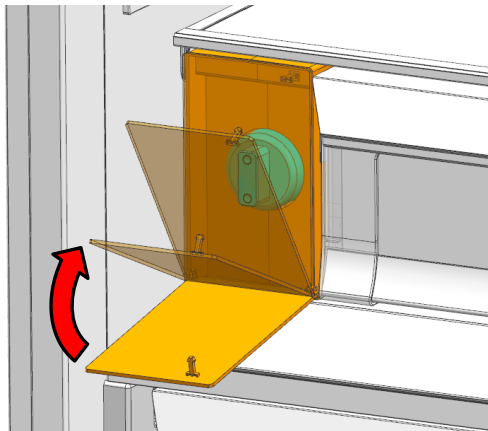

Figure 4
4. Re-secure the filter cover by pushing it up to locking with the button (Figure 4).